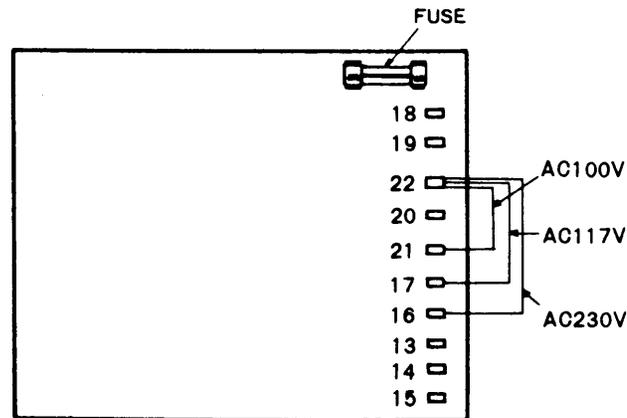

Fig. 17. Altering power transformer primary voltage.
- a. When changing the primary voltage, change the power circuit connections as follows (see Fig. 17):